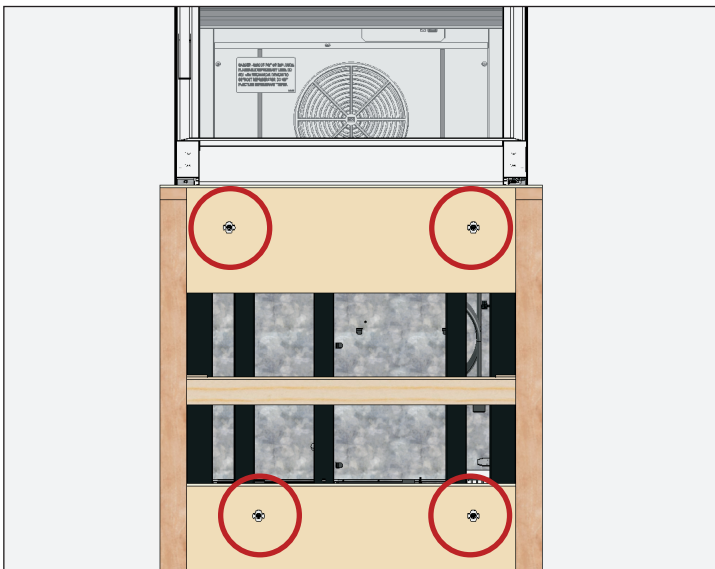

Fig. 3. Shipping bolt locations.
2. With an adjustable wrench, remove all shipping bolts securing the wood skid to the bottom of the appliance. See fig. 3.